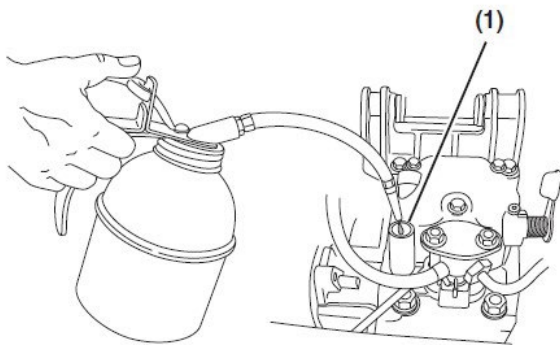

Figure 7
2. Add 2 cc of engine oil to the oil port **(Figure 7,(1))**.